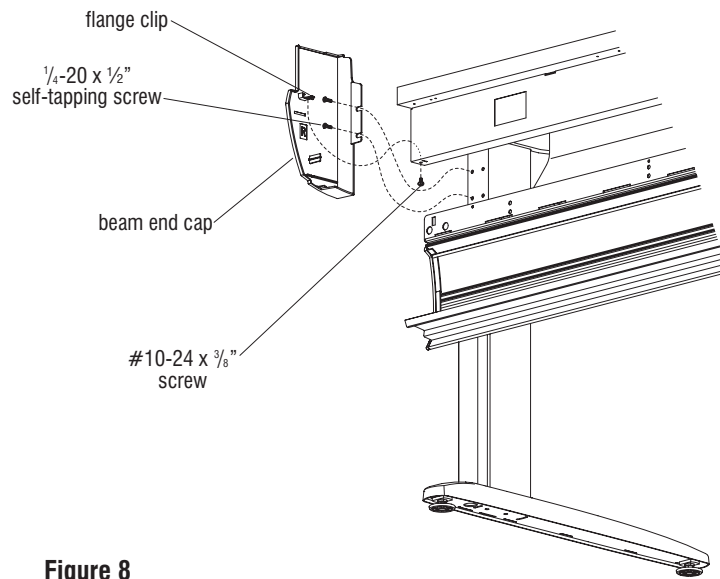

Figure 8
1. Snap the beam end cap into the open end of the steel power and data beam. Secure the end panel to the leg as illustrated with two $\frac{1}{4}$ -20 x $\frac{1}{2}$ " self-tapping screws. Also secure the clip flange of the beam end cap to the power beam using #10-24 x $\frac{3}{8}$ " screw (Figure 8).
5. Electrically connected back-to-back tables must be joined together with ganging plates. Please refer to instructions for Figure 8, page 9.
6. Electrically connected back-to-back tables must be joined together with ganging plates. Please refer to instructions on page 9, see figure 8.